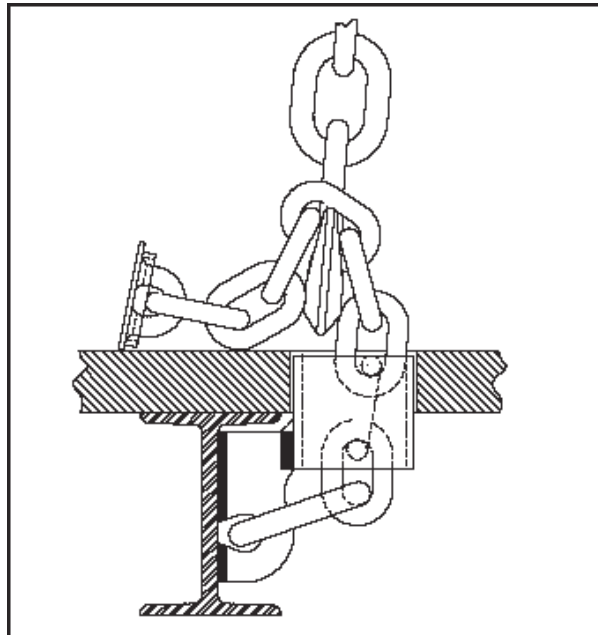

Figure 5
- 2 Seat the tie-down assembly hook between two adjacent links of the Floor Chain Tie-down (see Figure 5).